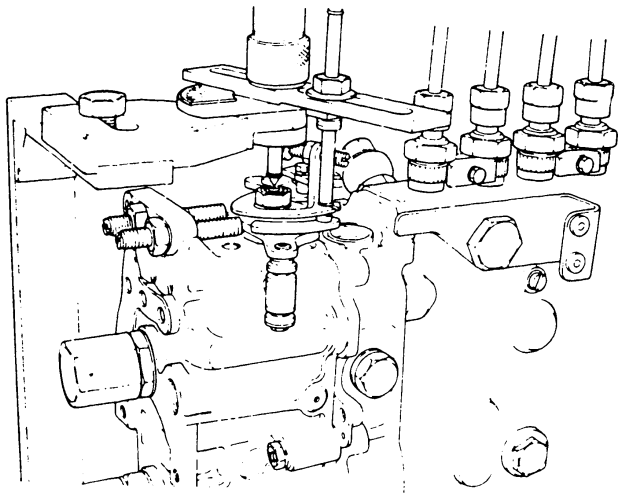

Fig. 149 Temporarily setting the control lever
1. With the pump speed maintained at  $N_f$  rpm, temporarily set the control lever at the position where the lever contacts the maximum-speed setting bolt (175). (Fig. 149)